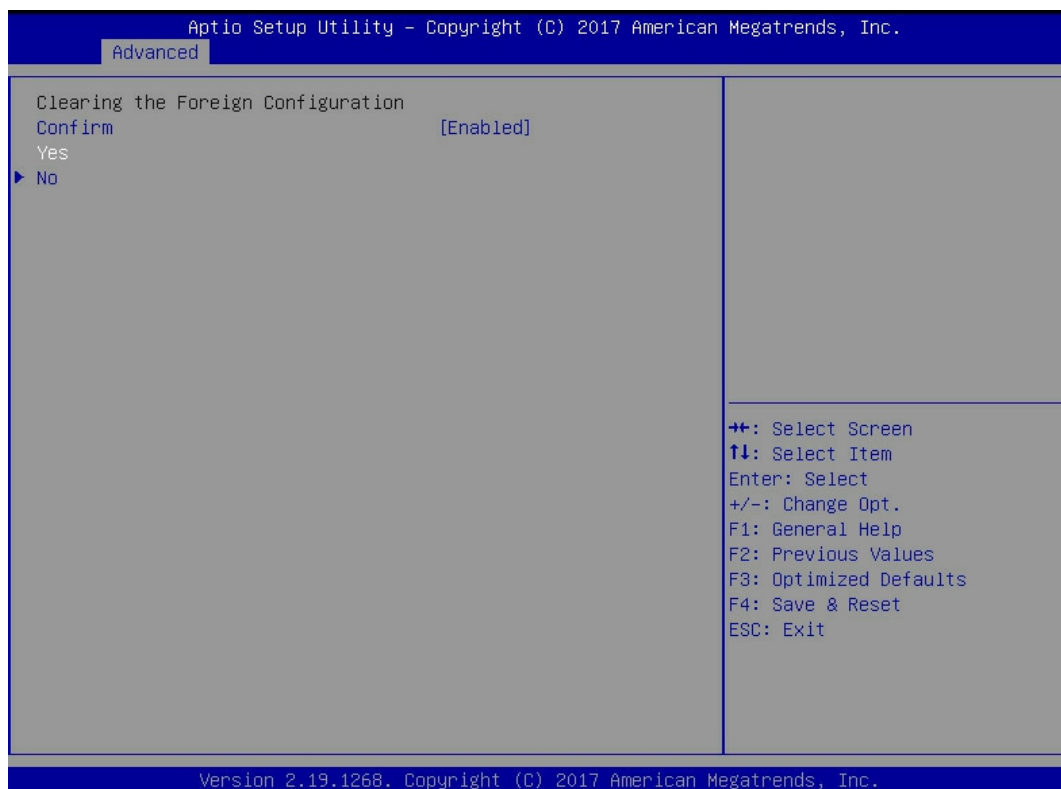

Figure 6-104
e) Enter the interface shown in figure 6-104, select confirm to enable it, select Yes, and press enter.
✧ Figure 6-104 confirm clear